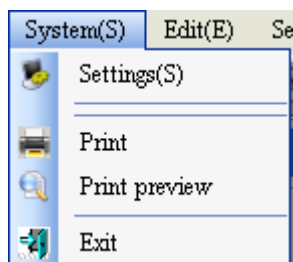

Fig.5-2
5.2.1 System (main menu), as shown in Fig.5-2: